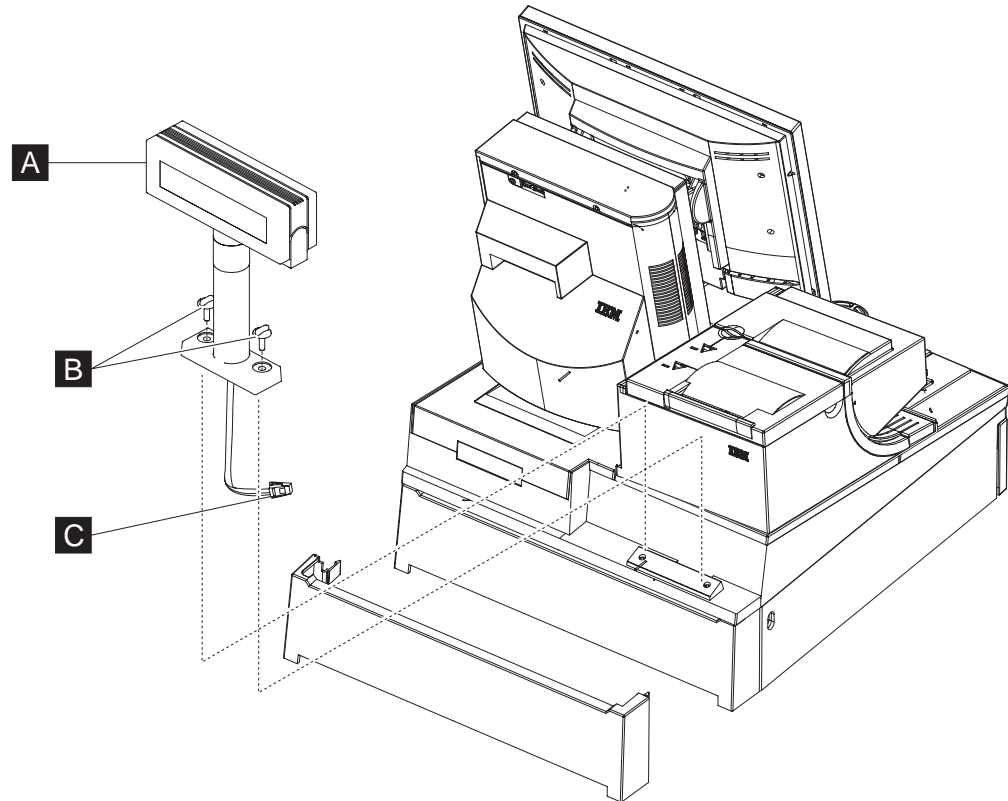

Figure 74. Installing the distributed customer display onto the keyboard integration tray
- a. Route the character display cable through the hole behind mounting post as shown in Figure 74. You might need to lay the display on its side to connect the display cable to the system unit rear connector panel.
- c. Attach the distributed customer display **A** to the cash drawer mounting post with two thumbscrews **B**. Snap the entire unit into place at the rear of the tray, as shown in Figure 74.